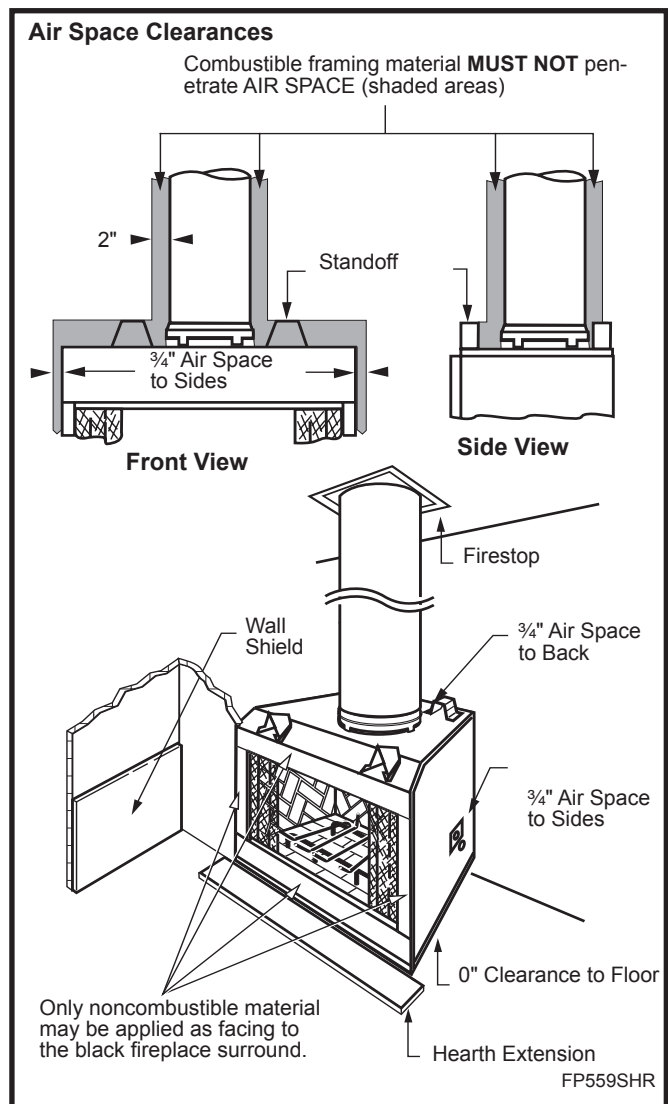

Fig. 22 Minimum clearances to combustibles.
**CAUTION:** All joints between the finished wall and the fireplace surround (top/sides) must be sealed with noncombustible material to prevent cold air leakage into the room. Only noncombustible material may be applied to the facing of the fireplace surround. (Black painted area) (Fig. 22)